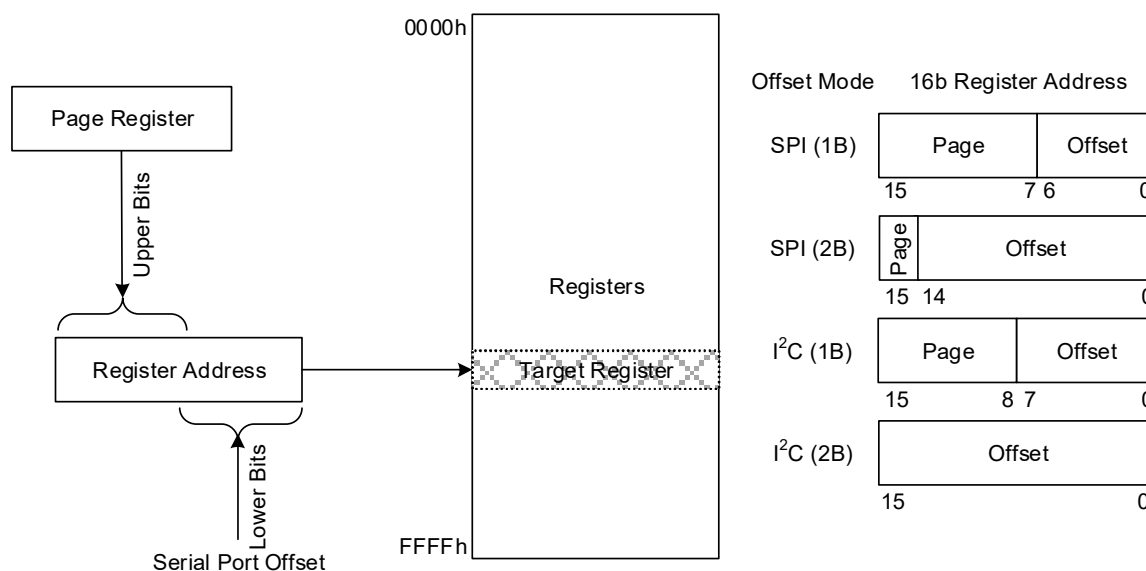

Figure 12. Register Addressing Modes Using Serial Port
You can choose to operate the serial port providing the full offset address within each burst, or to operate in a paged mode where part of the address offset is provided in each transaction and another part comes from an internal page register in each serial port. Figure 12 shows how page register and offset bytes from each serial transaction interact to address a register within the RC22514A.
The selection of 1-byte (1B) or 2-byte (2B) offset addressing must also be configured using the `ssi_addr_size` register field. These offsets are used in conjunction with the page register to access registers internal to the device (see Figure 12). Because the I2C protocol already includes a read/write bit with the Dev Addr, all bits of the 1B or 2B offset field can be used to address internal registers.
- 1-byte (1B) or 2-byte (2B) offset addressing (ssi\\_addr\\_size) (see Figure 12)